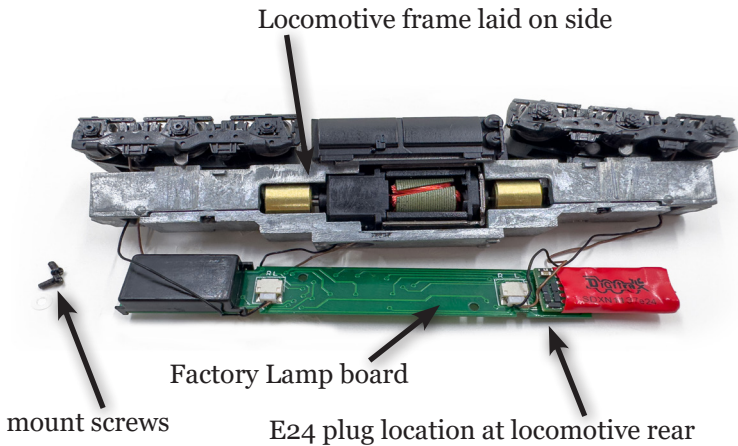

Figure 1: Atlas N- GP9 with factory board removed
3. Carefully move the lamp board and place it next to frame and upside down to access the E24 plug at the rear. Do not pull on the fine wires. See Figure 1.